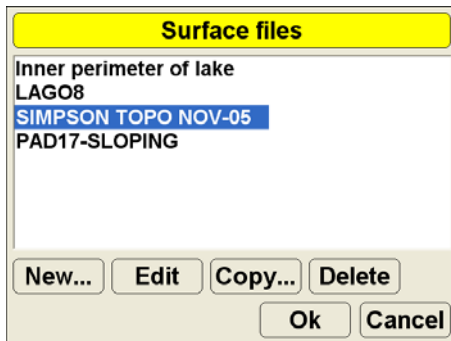

Figure 3-4. Select Design Surface Files
2. On the *Surface files* dialog box (Figure 3-4), select the design surface file for the job and press **Ok**.